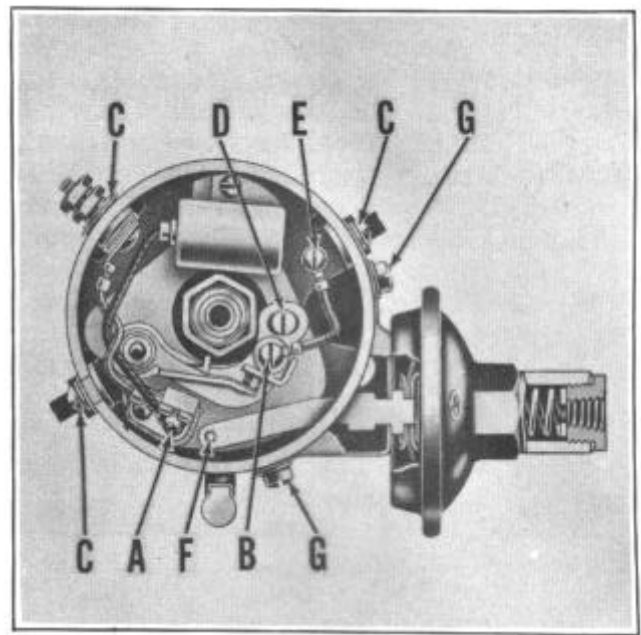

FIGURE 11
NOTE: Contact point adjustment is made by first loosening the clamp screw (B) Figures 11 and 12, holding the stationary contact plate, then turn the eccentric adjusting screw (D) to move the stationary contact point. Tighten clamp screw when correct gap is secured.
2. Adjust spring tension by loosening screw (A), Figures 11 & 12, attaching breaker arm spring to plate and move end of spring in or out of clip as necessary.